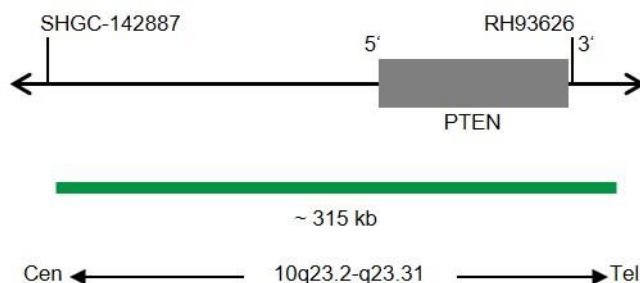

Fig. 1: SPEC PTEN Probe map (not to scale)
- ZyGreen (excitation 503 nm/emission 528 nm) labeled polynucleotides (10 ng/ μ l), which target sequences mapping in 10q23.2-q23.31* (chr10:89,440,649-89,755,790) harboring the PTEN gene (see Fig. 1).